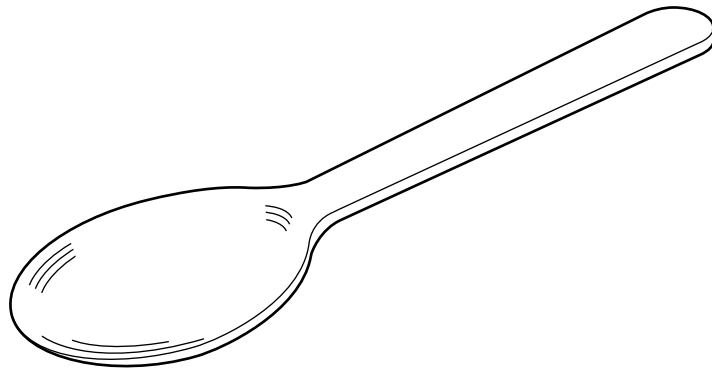

Fig. 2
2 Fig. 2 shows a spoon.
- (a) State a suitable material for a spoon of the type shown in Fig. 2 and give **two** reasons for your choice. [3]